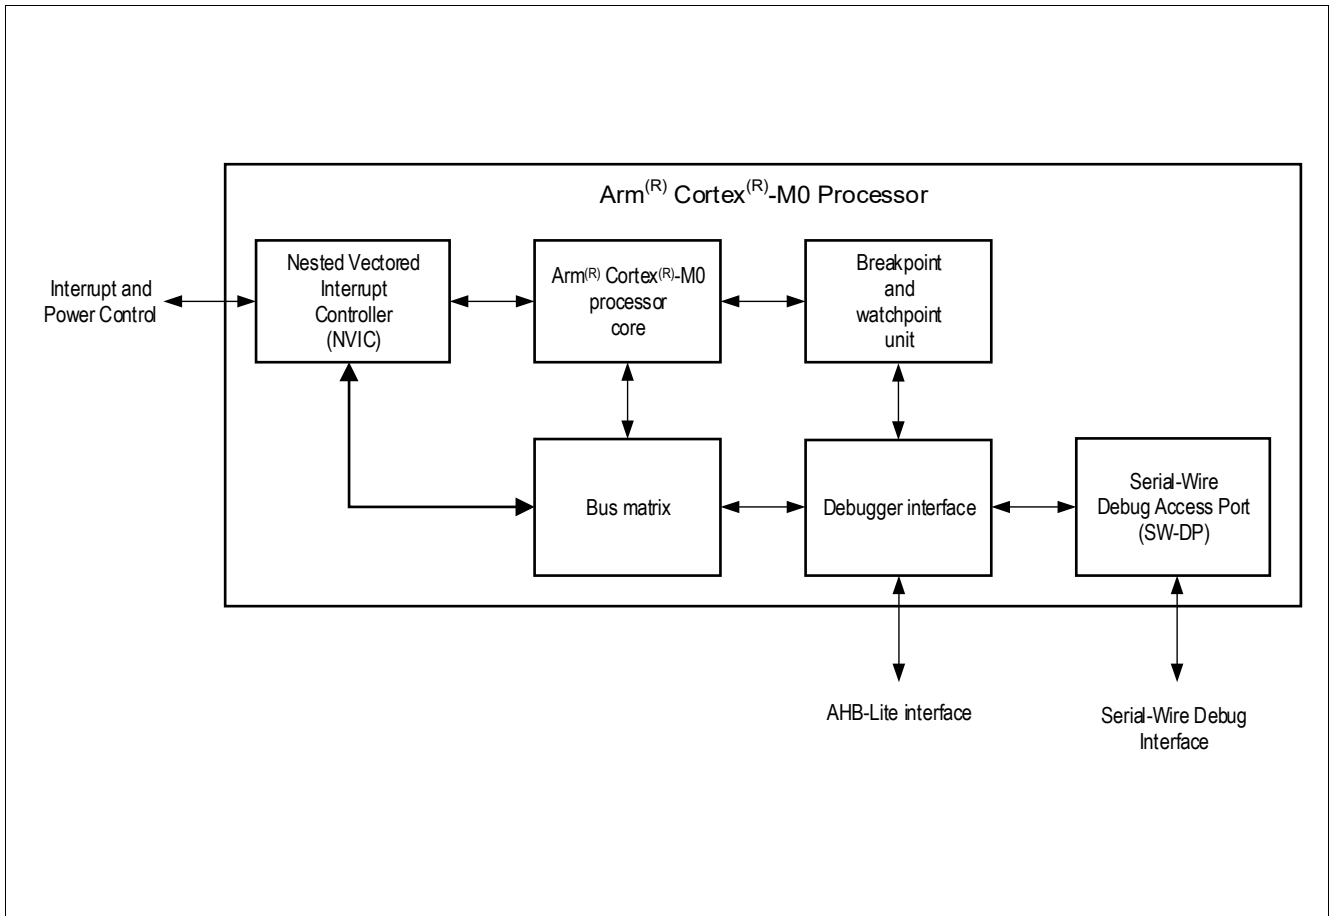

Figure 15 Arm® Cortex®-M0 Block Diagram
**Figure 15** shows the functional blocks of the Arm® Cortex®-M0.